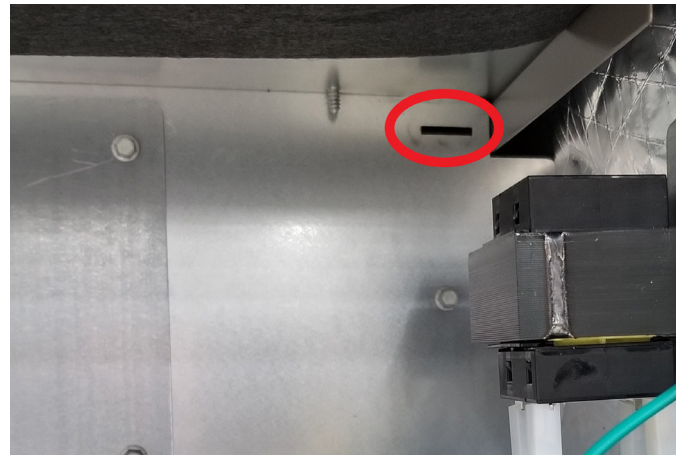

FIGURE 18. Notch for Control Panel Relocation
- 1 - Remove the two screws that secure the control panel to the cabinet. See figure 18. Slide panel out.